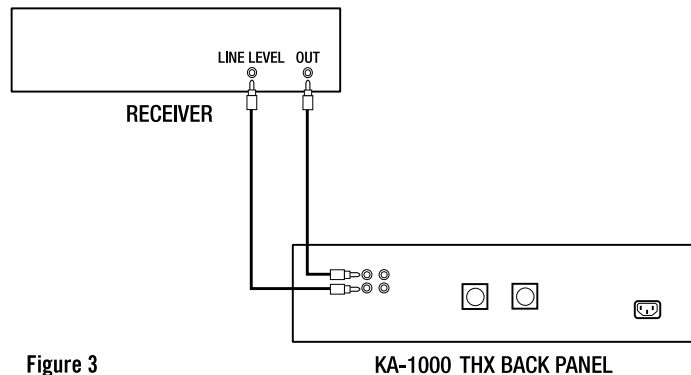

Figure 3
**Non-THX / Analog Surround Receiver / Processor or Two-Channel Stereo System Connection** – Some analog A/V receivers and processors (without Dolby Digital® or DTS® capability) have a line-level subwoofer output. Others have left- and right-channel line-level outputs, as do some stereo receivers and integrated amplifiers. All separate stereo preamps and surround processors have line-level outputs. If your system is built around one of these, it will almost always be best to use the KA-1000 THX with the THX switch in the “Off” position. This will activate the crossover and level controls. These types of outputs should be connected to the KA-1000 THX’s line-level inputs (Figure 3). You will need one or two shielded, high quality interconnect cables of appropriate length with RCA plugs on each end. Your dealer can help you select suitable cables.